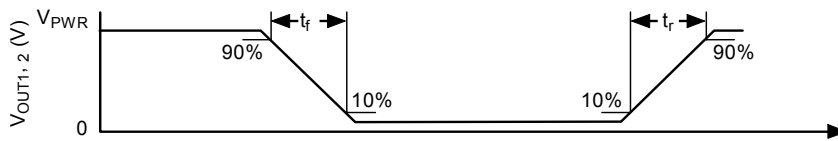

Figure 4. Output Switching Time
21. Rise Time is from the 10% to the 90% level and Fall Time is from the 90% to the 10% level of the output signal. See Figure 4.